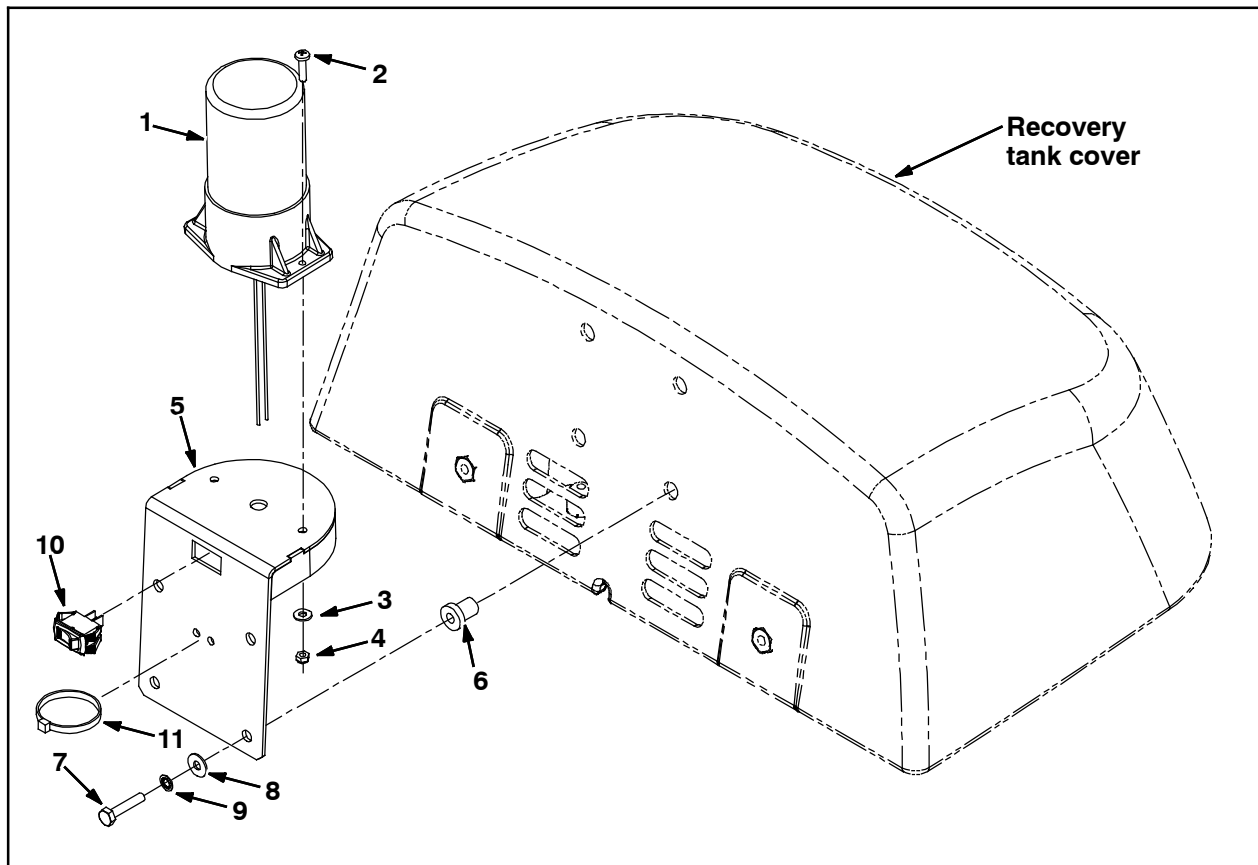

FIG. 1
*NOTE: Refer to Fig. 1 to complete most steps in this Instruction Bulletin, unless otherwise noted.*
1. Center and hold the light bracket (5) over the top of the recovery tank cover so there is approximately a 1/8" gap between the bottom of the light bracket (5) and the top of the recovery tank cover.